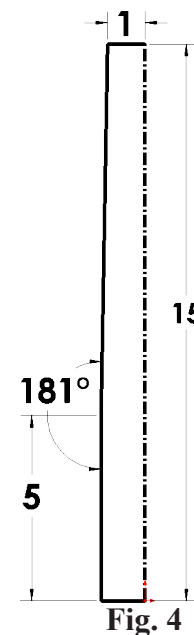

Fig. 4
Step 10. Add dimensions, **Fig. 4**. First, dimension the vertical line **5** and across the width **1**. Dimension the angle **181° degrees** between the vertical line and angled line. To Smart dimension the angle, click both lines, then move the cursor outside the angle and click. Key-in **181** for the dimension and press ENTER.